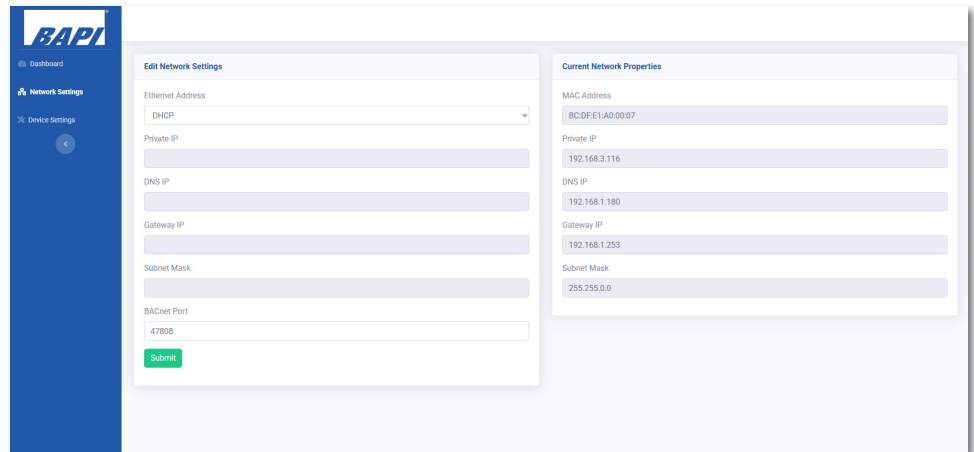
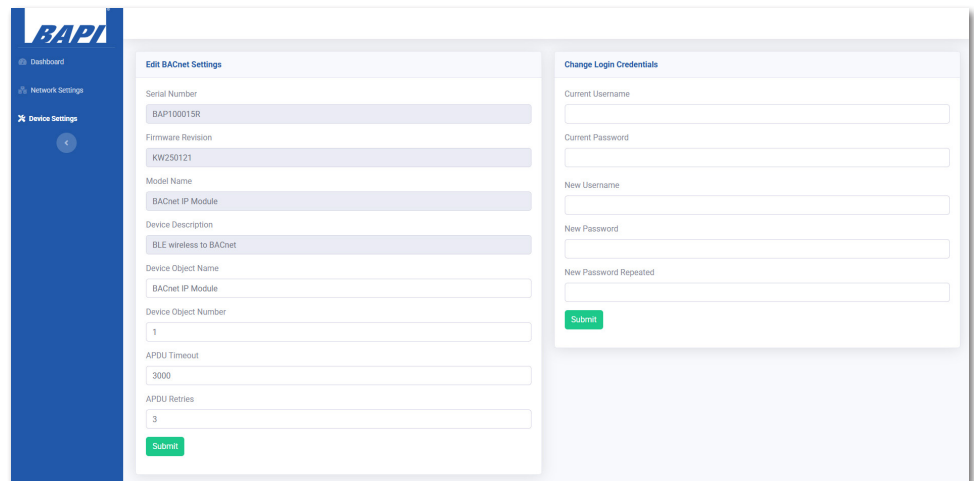

Fig. 6: Network Settings Window
Fig. 7: Device Settings Window
4. Upon login, please make all the necessary changes to network settings (Fig 6), device settings (Fig 7), object settings (Fig 8) and user details.